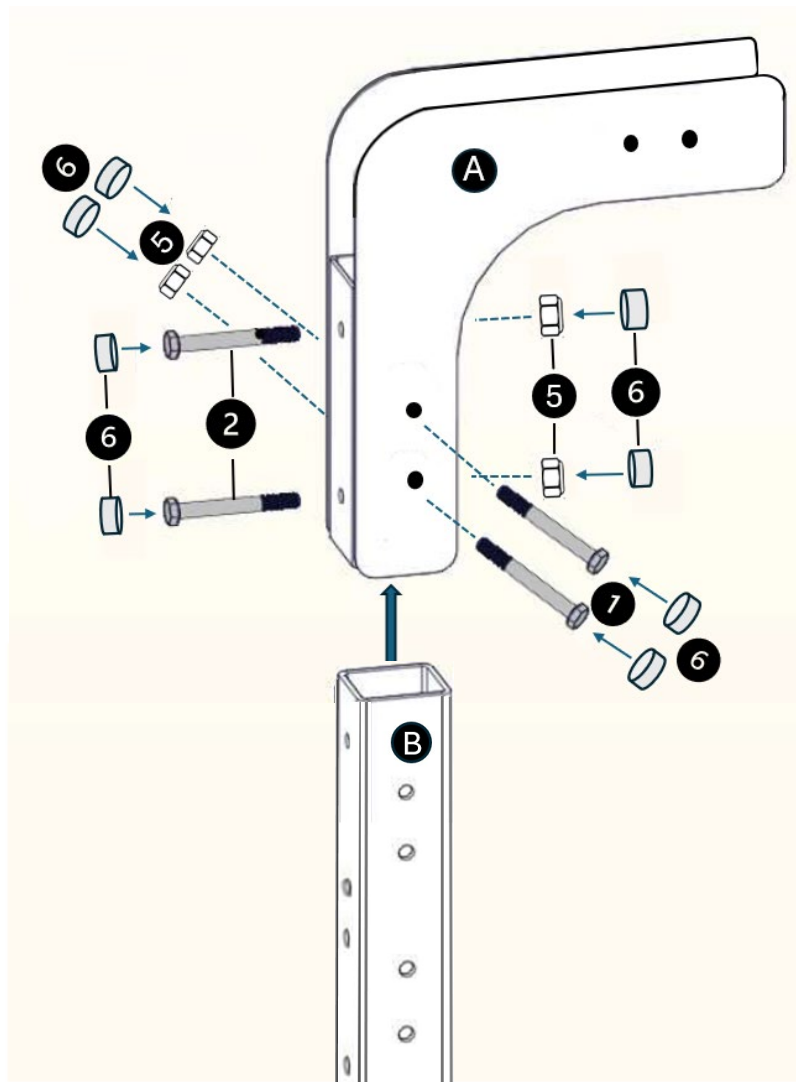

Figure 4
- Line up bolt holes and Insert (**#1**) 3.5" bolts and (**#2**) 3.25" bolts and tighten with (**#5**) locknuts. (Refer to figure 4 below for bolts (**#1**) & (**#2**) placement.)